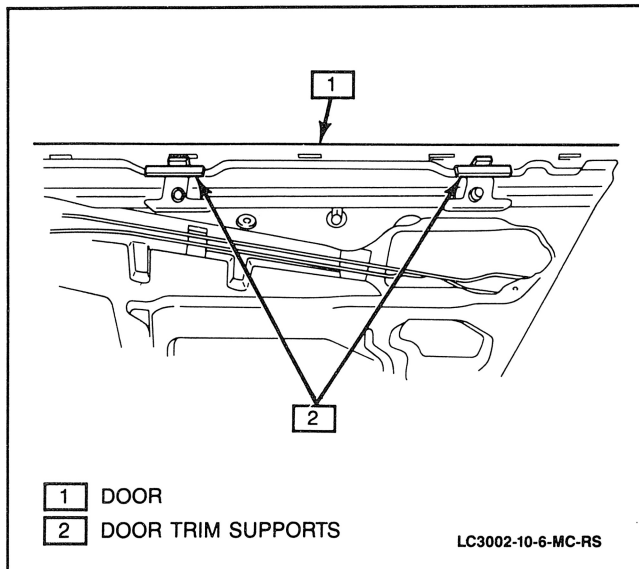

Figure 15 Door Trim Supports
- 4. Two screws and both door trim supports (Figure 15).